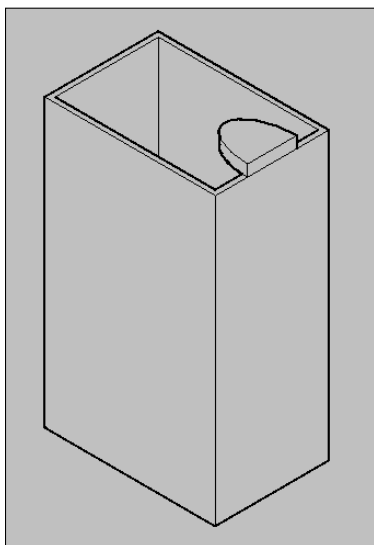

**Figure 24-53:** The shelled box.
7. Save your drawing. It should look like Figure 24-53.